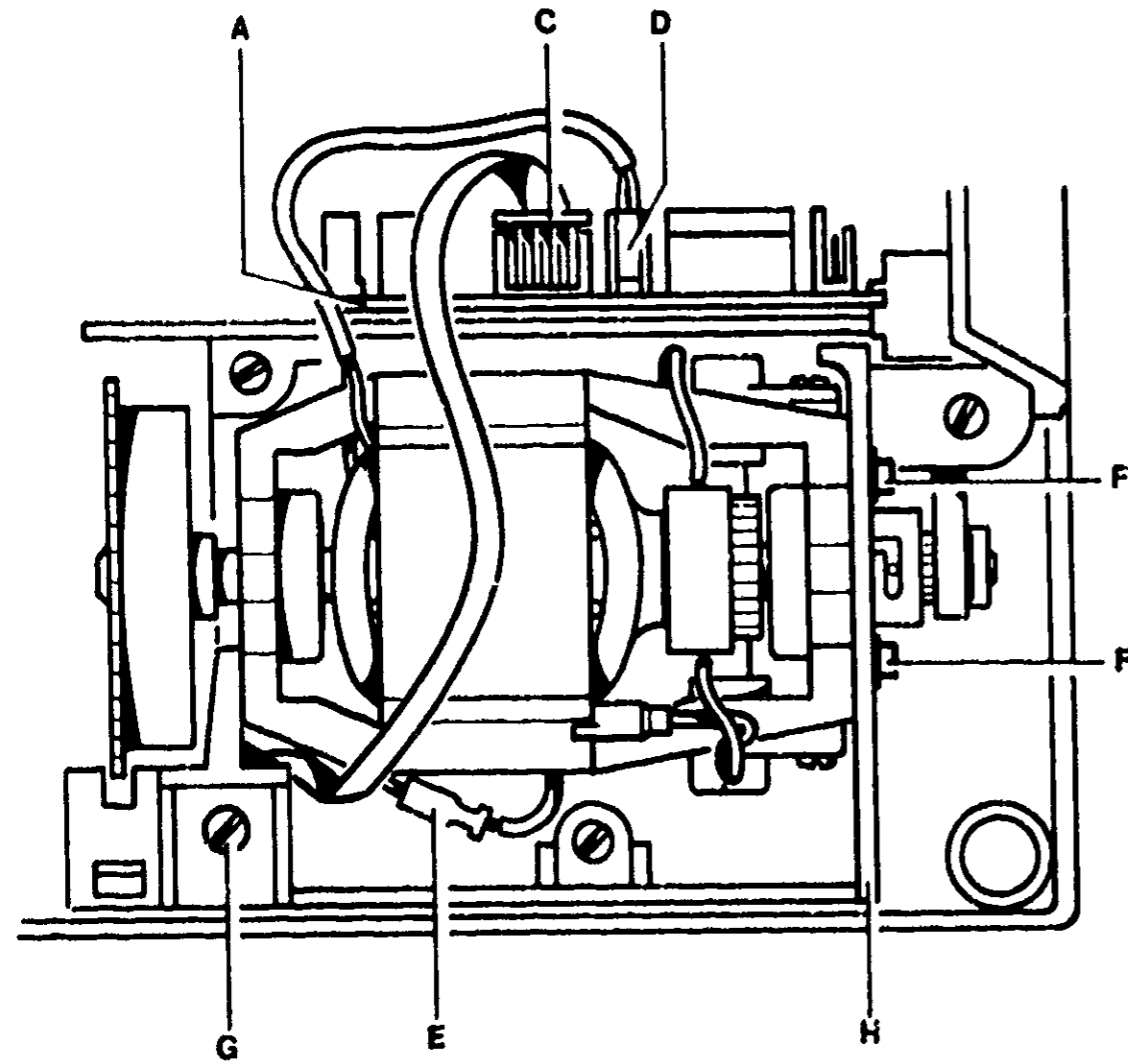

FIGURE 77
- Disconnect motor (D) (Figure 77) and interruptor (C) connectors from motor control board (A)
- Unplug ground connector (E) from motor
- Remove screws (F) and (G) Remove drive belt and then remove motor from motor bracket (H)